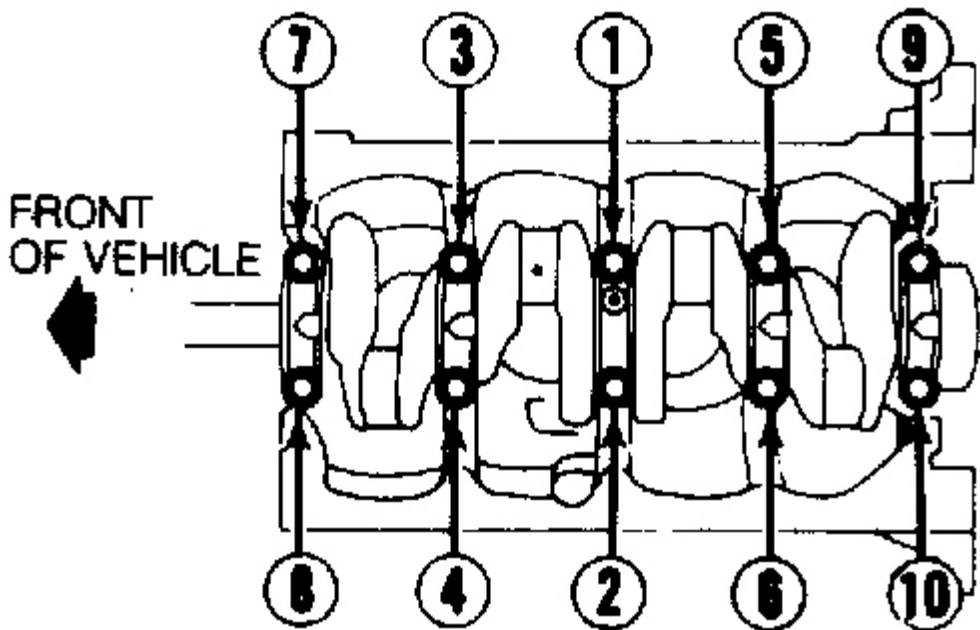

Fig. 7: Tightening Main Bearings
3. Measure bearing clearances using Plastigage method. Observe correct tightening sequence. See **Fig. 7**. If clearance exceeds specifications, grind journals for undersize bearings.